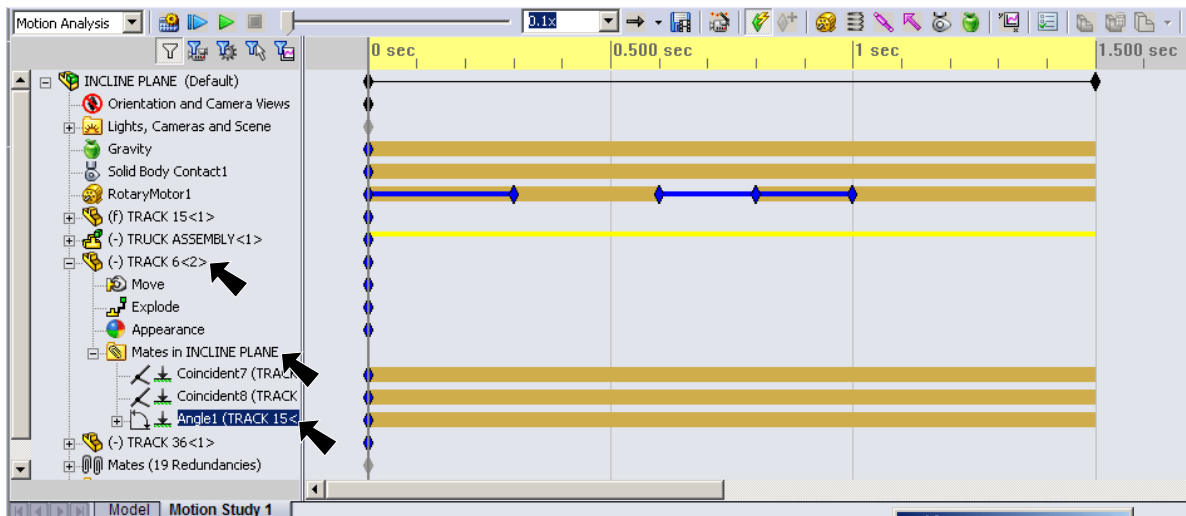

Fig. 1
Step 2. **Expand TRACK 6** and **expand Mates in INCLINE PLANE** in Motion Manager design tree, **Fig. 1**.
Step 3. **Double click Angle1 Mate**, **Fig. 1**.